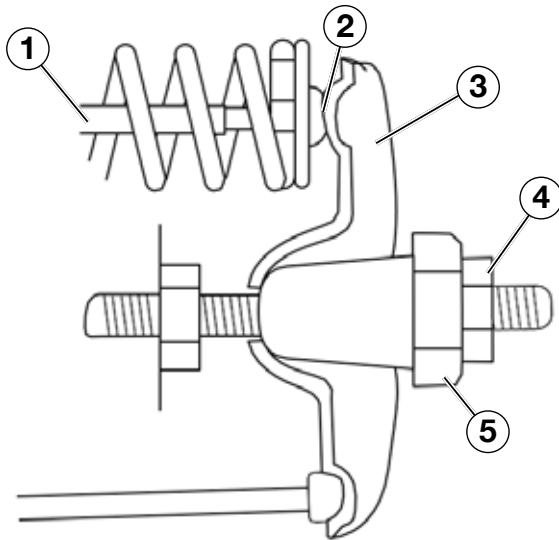

Figure 24
5. Insert a feeler gauge between the rocker arm and the push rod and check for clearance (see Figure 24). See Table 1 for valve lash specifications.